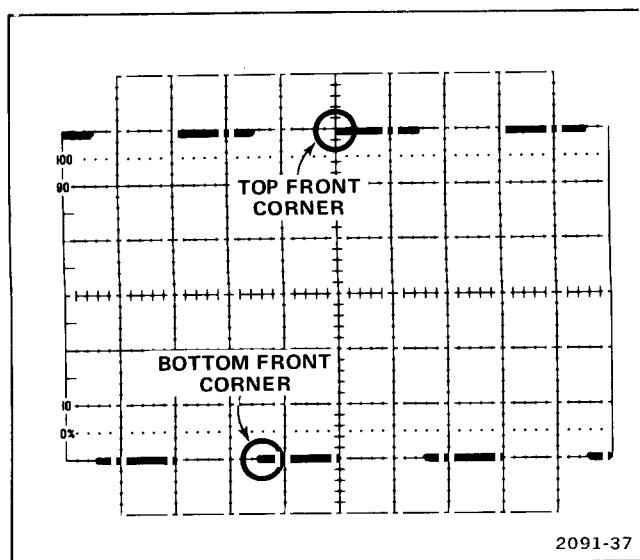

Figure 6-1. Typical display for adjusting vertical compensation.
- ADJUST-R415 (Y Gain) for an 8-division square-wave display on the 607 as shown in Figure 6-1.
j. ADJUST–C400 (+ Y Atten Comp) for an optimum square top front corner on the 607 display (see Fig. 6-1). For best accuracy, position the display corner of interest to graticule center.
l. ADJUST–C500 (– Y Atten Comp) for an optimum square bottom front corner on the 607 display (see Fig. 6-1). For best accuracy, position the display corner of interest to graticule center.
q. ADJUST–C446 (Y HF Comp) for an optimum square front corner on the 607 display (see Fig. 6-1). For best accuracy, position the display corner of interest to graticule center.